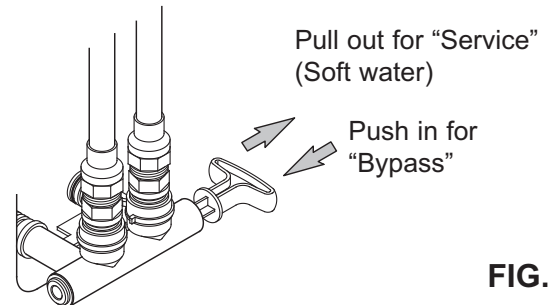

FIG. 7
Always install either a single bypass valve (provided), as shown in Figure 7, or, if desired, parts for a 3 valve bypass system (not included) can be purchased and assembled, as shown in Figure 8. Bypass valves allow you to turn off water to the softener for maintenance if needed, but still have water in house pipes. Pipe fittings must be 1.9 cm minimum.
2. Place the bypass valve (single or 3 valve) into the "bypass" position. See Figures 7 & 8 on Page 7.